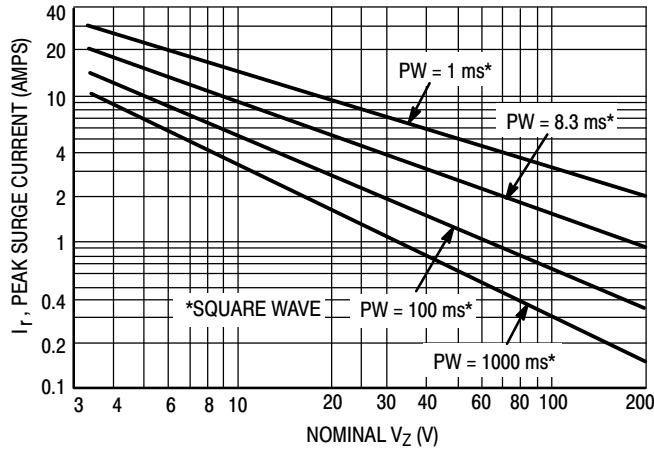
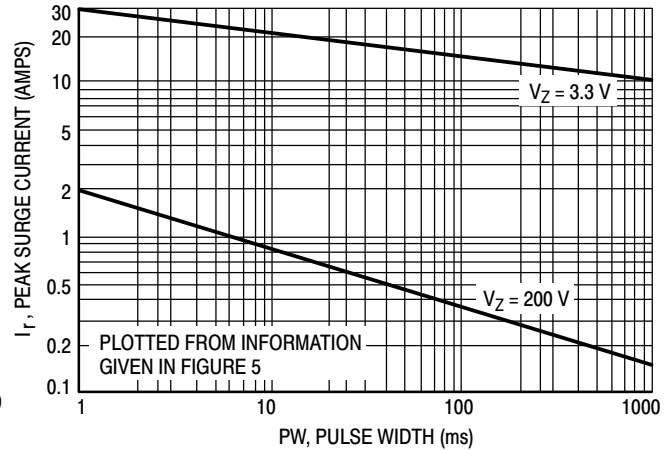

Figure 5. Maximum Non-Repetitive Surge Current
Figure 6. Peak Surge Current versus Pulse Width
- SURGE CURRENT ( $I_R$ ):** Surge current is specified as the maximum allowable peak, non-recurrent square-wave current with a pulse width, PW, of  $8.3\text{ ms}$ . The data given in Figure 5 may be used to find the maximum surge current for a square wave of any pulse width between  $1\text{ ms}$  and  $1000\text{ ms}$  by plotting the applicable points on logarithmic paper. Examples of this, using the  $3.3\text{ V}$  and  $200\text{ V}$  zener are shown in Figure 6. Mounting contact located as specified in Note 2 ( $T_A = 25^\circ\text{C} + 8^\circ\text{C}, -2^\circ\text{C}$ ).
- SURGE CURRENT ( $I_R$ ):** Surge current is specified as the maximum allowable peak, non-recurrent square-wave current with a pulse width, PW, of 8.3 ms. The data given in Figure 5 may be used to find the maximum surge current for a square wave of any pulse width between 1 ms and 1000 ms by plotting the applicable points on logarithmic paper. Examples of this, using the 3.3 V and 200 V zener are shown in Figure 6. Mounting contact located as specified in Note 7 ( $T_A = 25^\circ\text{C} + 8^\circ\text{C}, -2^\circ\text{C}$ ).